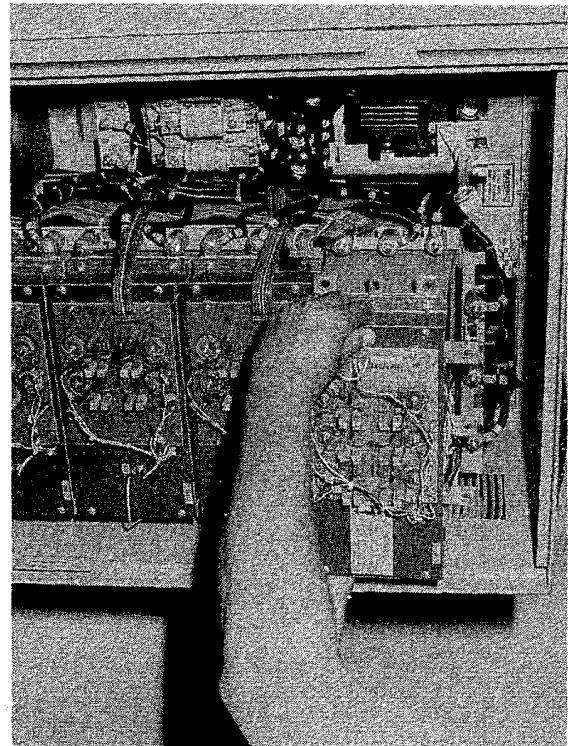

FIGURE 10
6. Carefully pull module out of the rack using the red plastic insulation cover in front of the module. (See Figure 10).